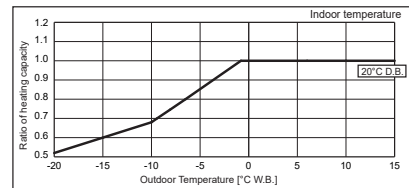

Figure 5 Outdoor unit temperature correction
(5) Outdoor Unit Correction Calculation
- Outdoor Design Wet Bulb Temperature Correction (2°C) 1.00 (Refer to Figure 5)